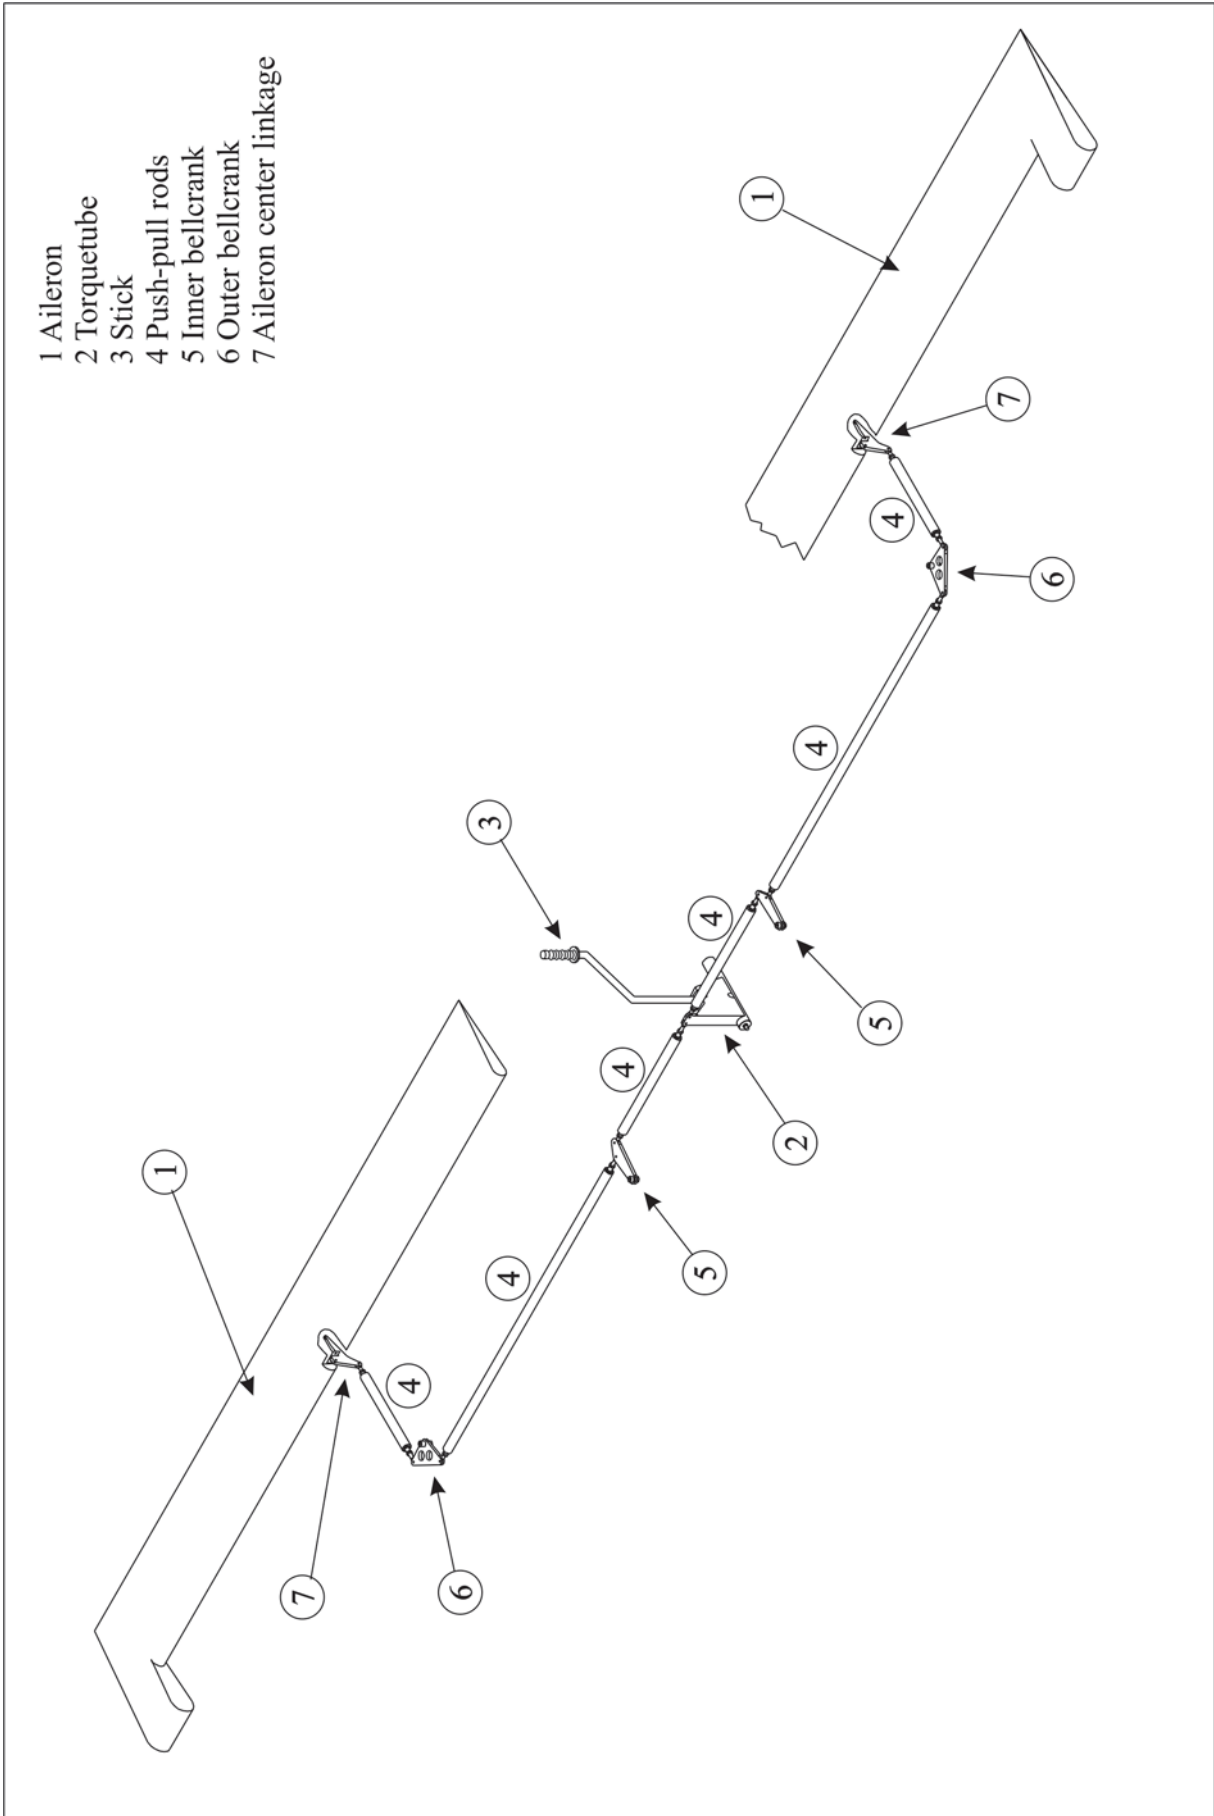

Figure 10
(Refer to Figure 10) The aileron (1) is direct mechanical linked to the control stick (3) by the aileron center linkage (7) with spade arm, push-pull rods (4), bellcranks (5-6) and the torque tube (2). The bell cranks have two sealed ball bearings. Each aileron is mounted at four points in spherical bearings. For lightning protection reason each hinge arm is grounded to the corresponding attachment bracket at the aileron by bonding leads. The rod end bearings of the push-pull rods located in the wing are also interconnected by bonding leads. The travel stops are located at the torque tube.